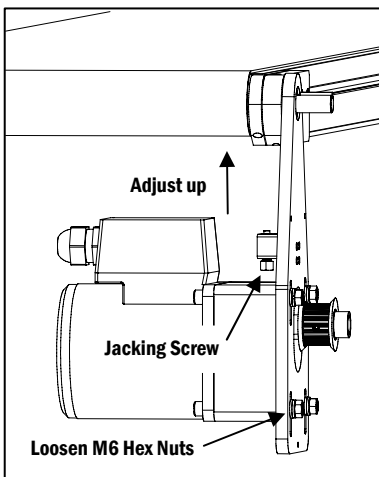

Figure 6
- c. Thread the Tracking Screw up to allow the gearbox (and subplate, if applicable) to move toward the conveyor (**Figure 6**).